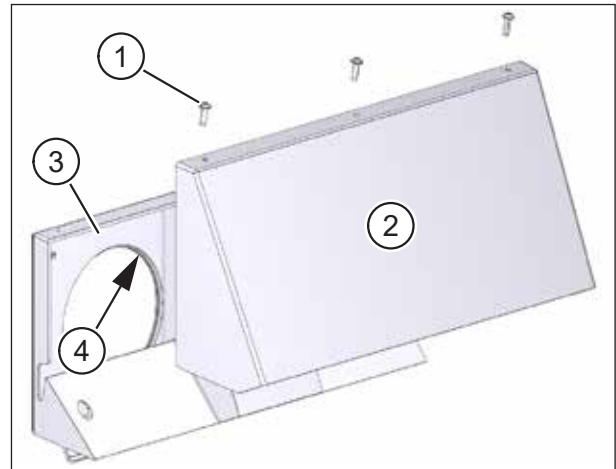

Fig. 12: Removing the cover
- ▶ Remove the three cross-head screws 3.5 x 16 (item 1 in Fig. 12) at the top of the outer wall terminal.
- ▶ Slide the cover (item 2 in Fig. 12) up roughly 10 mm. Lift the cover forward and away from the base plate (item 3 in Fig. 12).
- ▶ Fully coat both 4 mm wide sealing surfaces (item 4 in Fig. 12) on the inside with Vaseline.